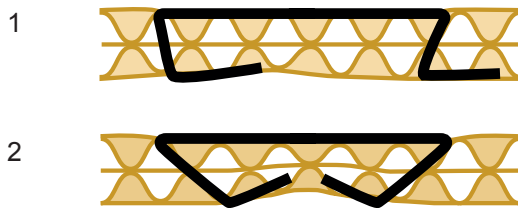

Fig. 13
Each industrial stapler is tested carefully before delivery. Following rough treatment during transport a screw may become loosened and the anvil may therefore have to be adjusted. Incorrect stapling may occur (Fig. 13/1).
- Make a test stapling in a piece of cardboard. If the anvil is correctly adjusted, the clinch should be as shown in (Fig. 13/2).